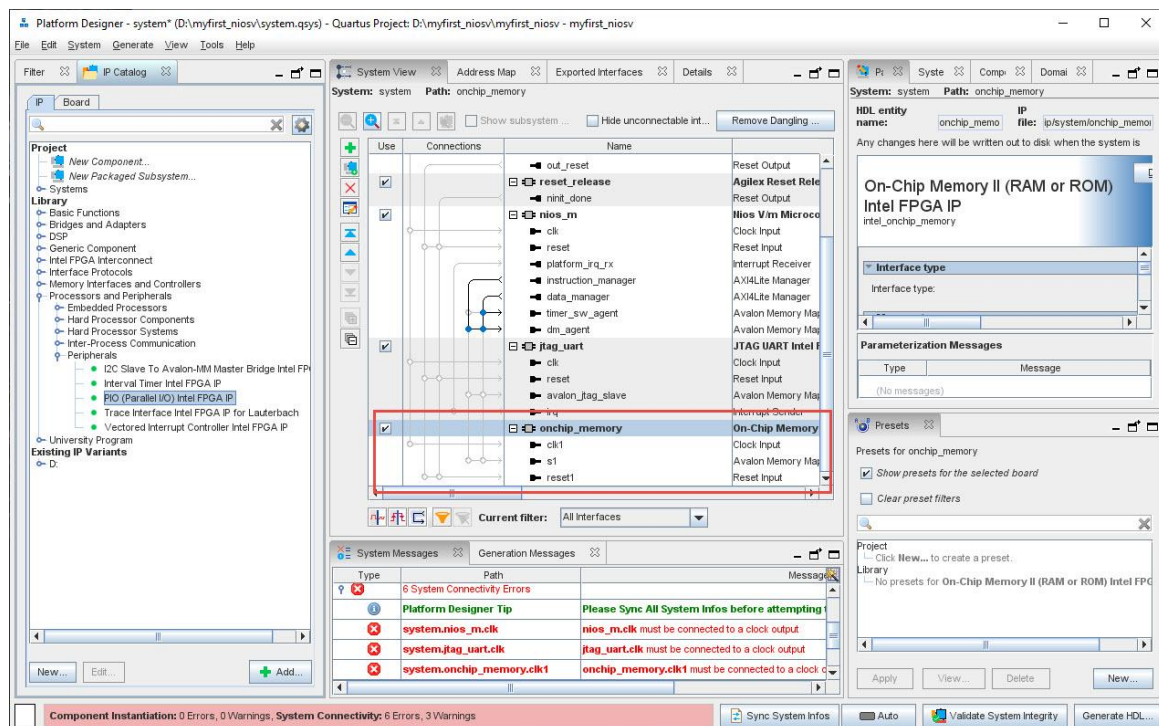

Figure 2-17 Add On-Chip memory Completely
6. Figure 2-17 show the **onchip_memory** component is added in the system.